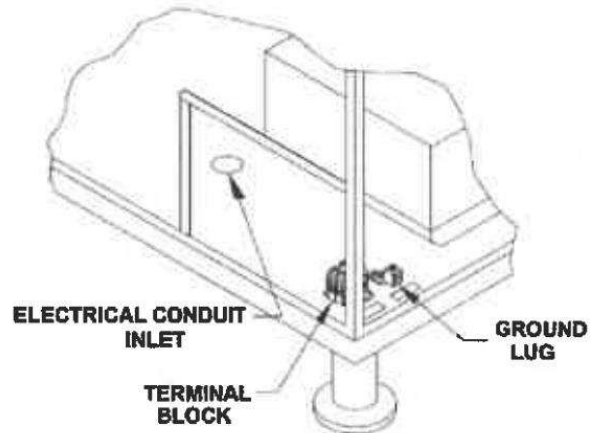

Figure 3-4
4. Refer to the connection diagrams in Figure 3-4 and connect the wires to the terminal block and ground connector accordingly.